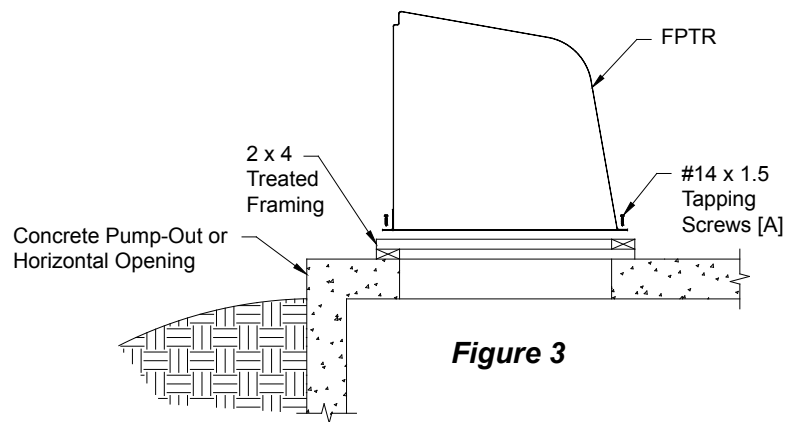

Figure 3
Apply caulk around FPTR flange and secure the FPTR to the framing using (8) #14 x 1.5" Tapping screws [A] (provided). **See Figure 3.**